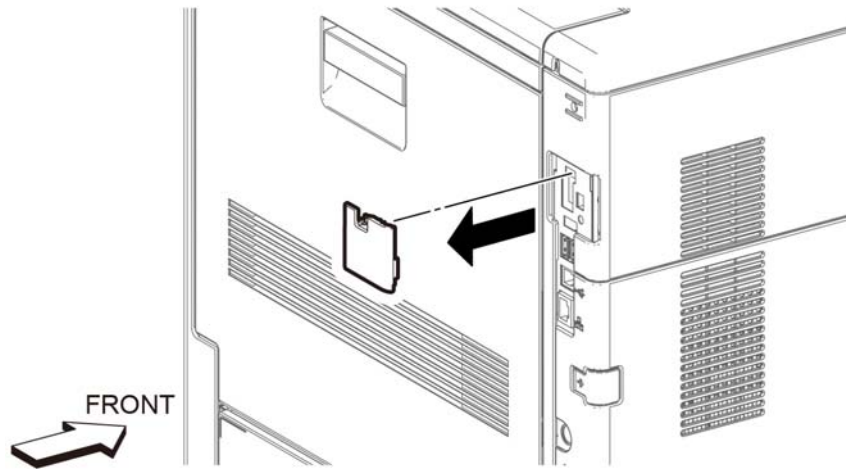

Figure 1 WIFI cap (C500/C600) removal
1. Release the hook and remove the WIFI cap, Figure 1.